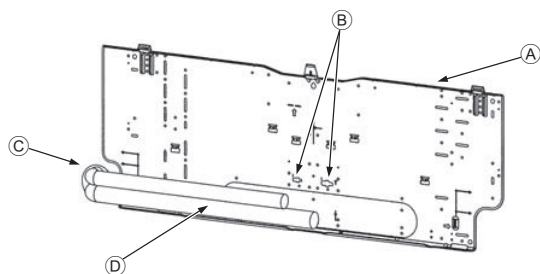

Fig. 3-5
3.3. When embedding pipes into the wall (Fig. 3-5)
① Mount board ①
② Reference marking for flare connection
③ Through hole
④ On-site piping